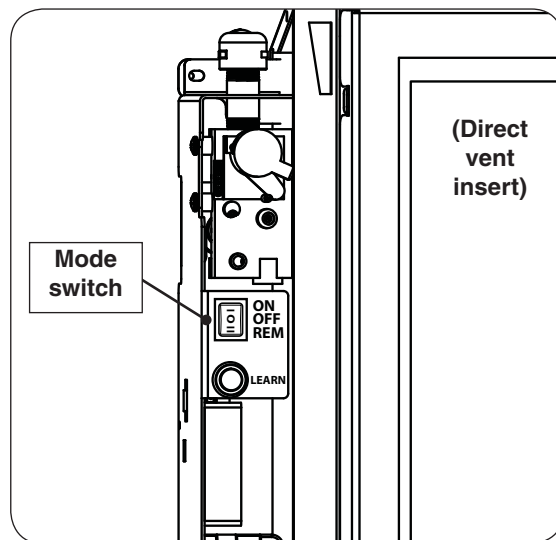
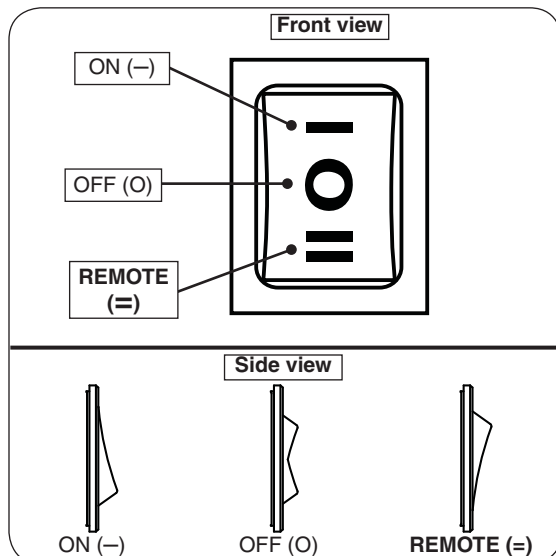

Fig. 35-1 Control box (left side of unit)
Fig. 35-2 Mode switch detail
1. Open the surround door. Locate the 3-position mode switch on the control box (see Fig. 35-1). Press the switch down to the **REMOTE (=)** position (see Fig. 35-2). The system will beep.